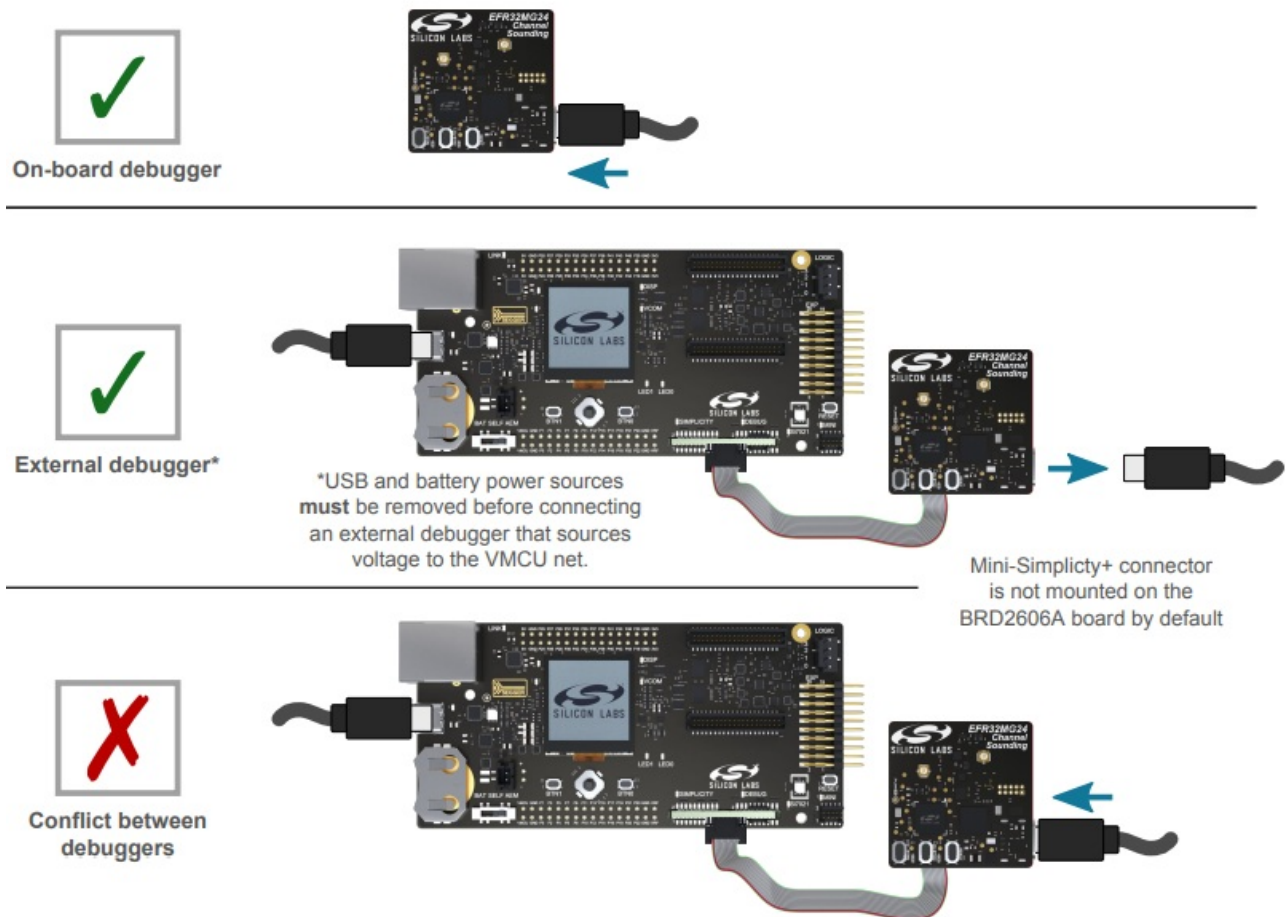

Figure 4.1. EFR32xG24 Channel Sounding Dev Kit Debugging Possibilities
- For information on how to correctly connect to the kit, see section Figure 4.1 EFR32xG24 Channel Sounding Dev Kit Debugging Possibilities.